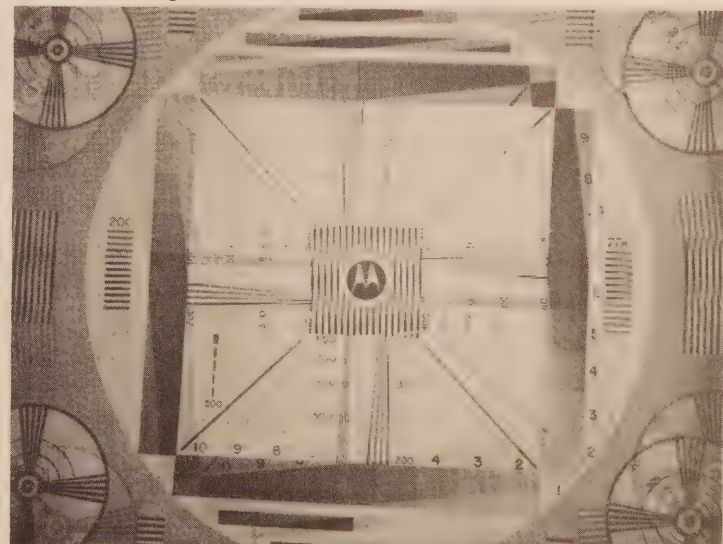

Figure 3
8. Adjust the Beam Magnets for super position of the center circles and equal rotation of the diagonals as shown in Figure 3.